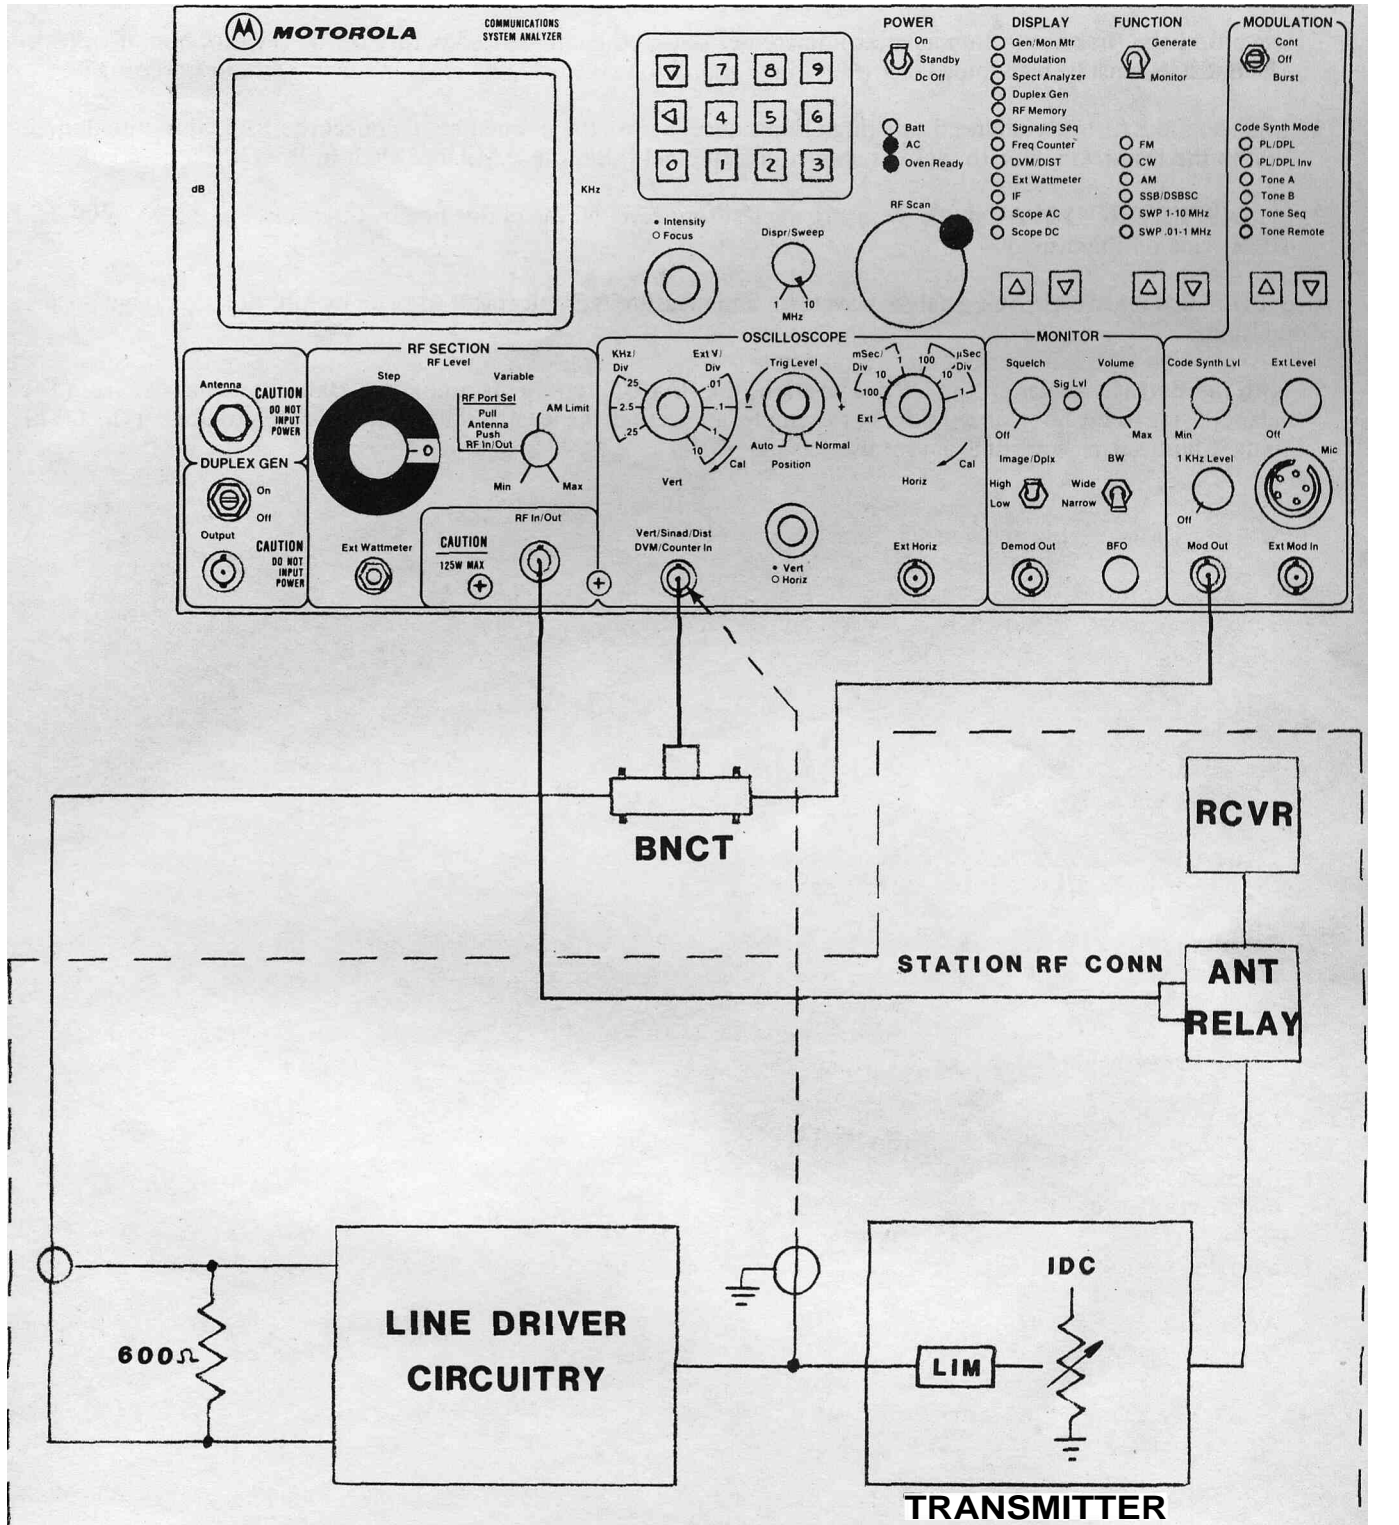

FIGURE 4-17. PHONE LINE LEVELS SETUP
2. Connect the Analyzer to the base station under test as shown in figure 4-17. Connect RF In/Out to the antenna connector and Mod Out - DVM/Counter In connector to the station phone line input.